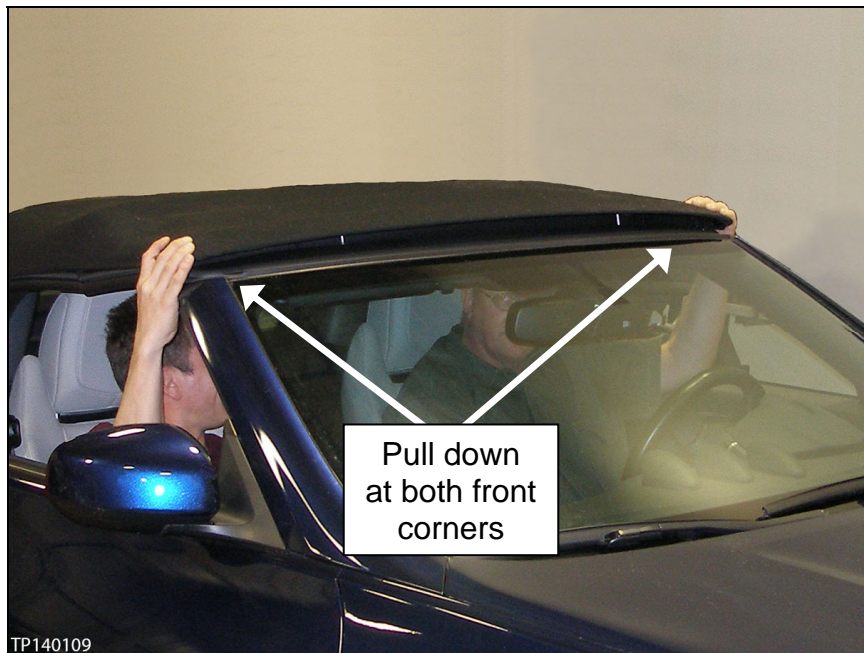

Figure 2
- If the soft top will not go as far as shown in Figure 2, this bulletin does not apply. Check all work performed during soft top assembly/canvas replacement.
2. With the help of another person, press the "close" switch and pull down the soft top at the same time until it latches and fully closes (see Figure 2).